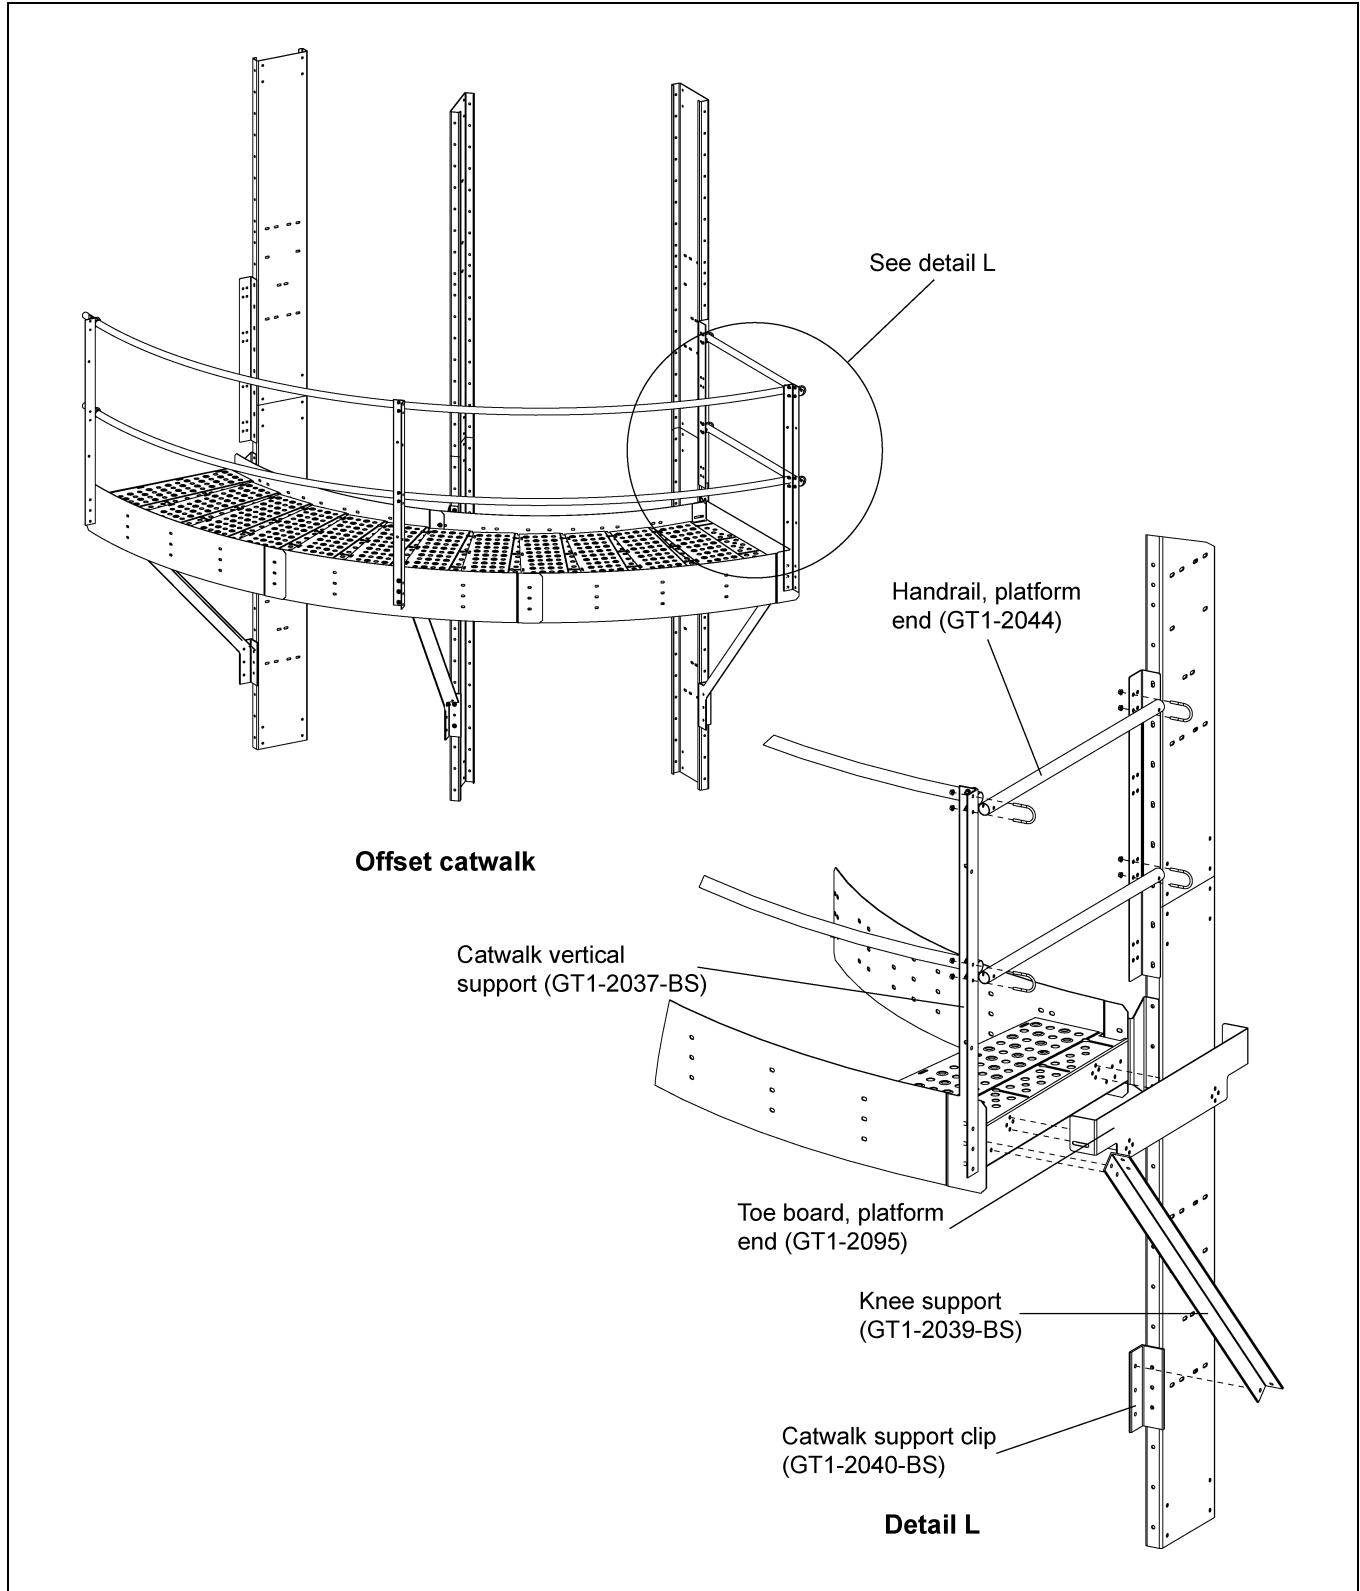
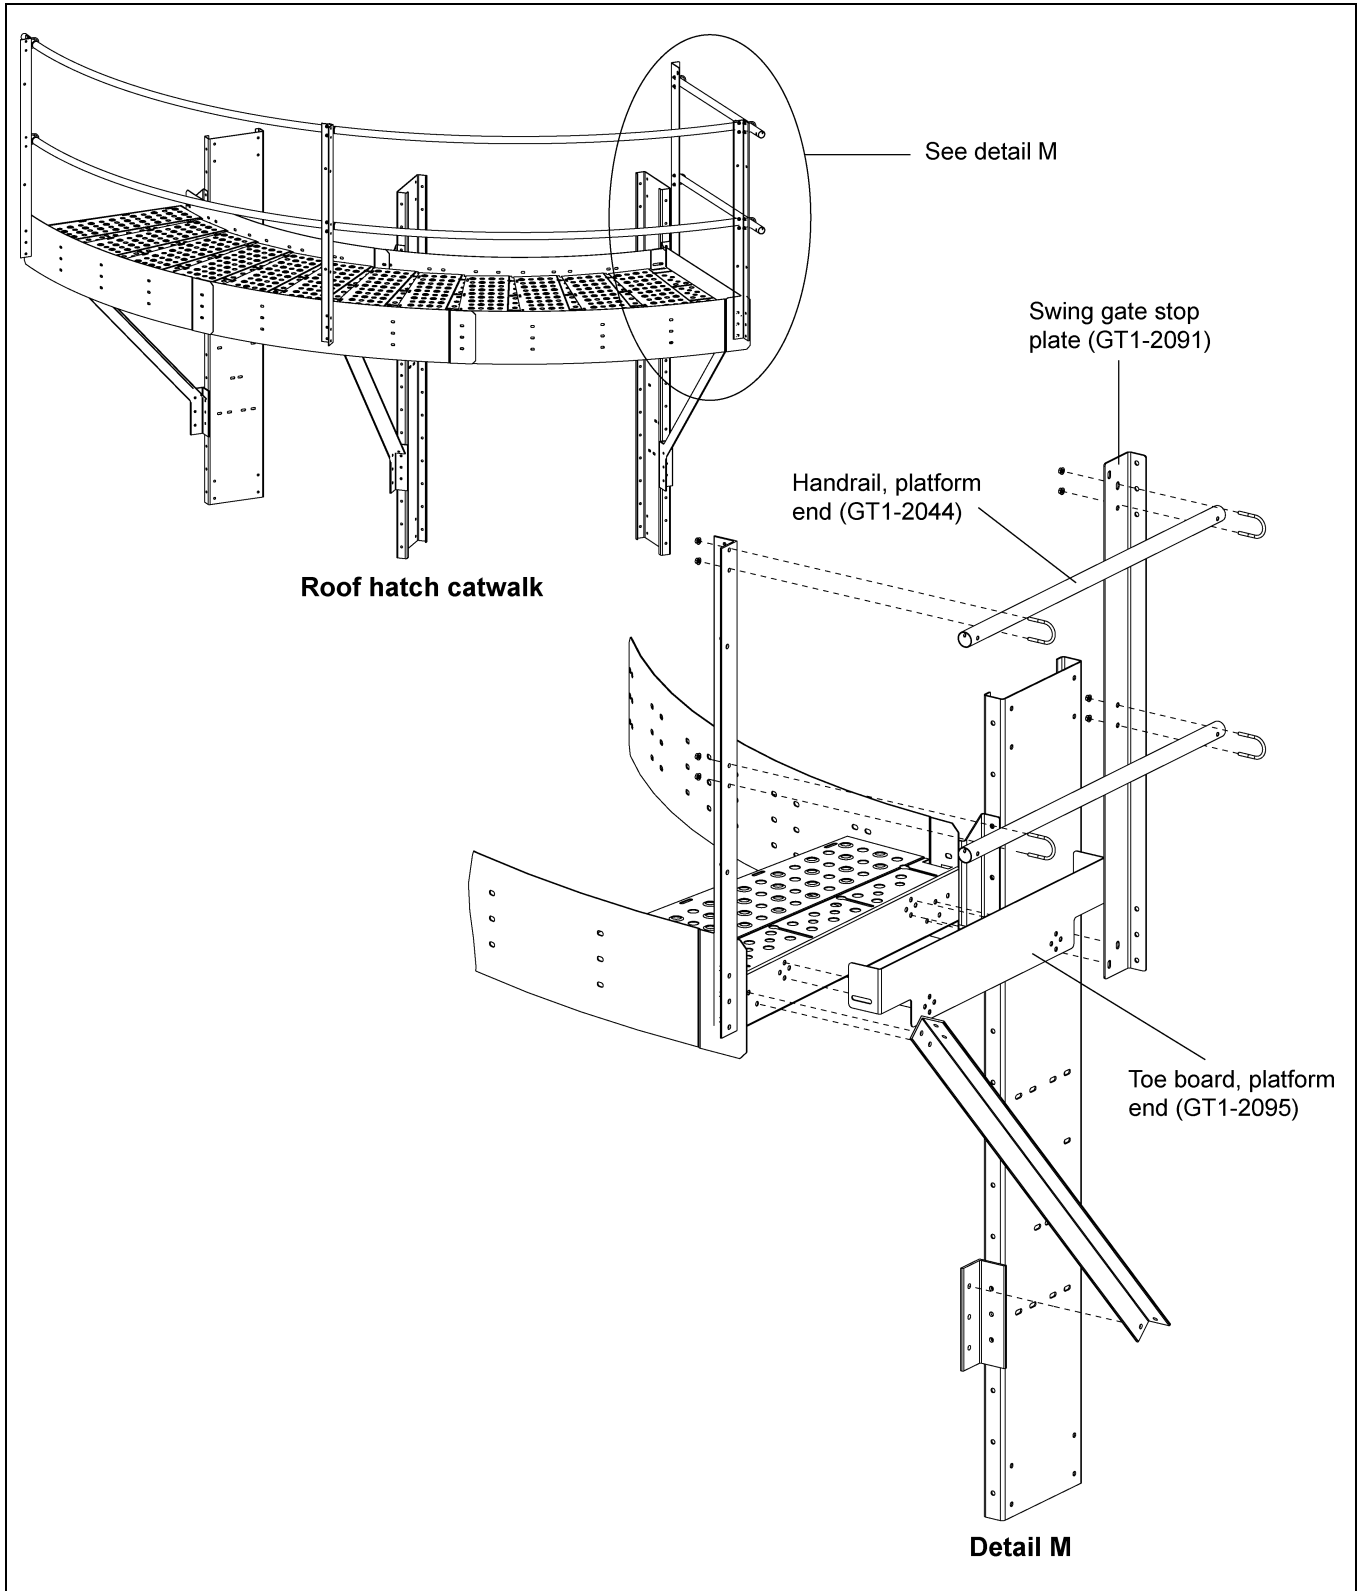

Figure 6V Offset Platform End Handrail (GT1-2044) Installation
Figure 6W Roof Hatch Platform End Handrail (GT1-2044) Installation
3. Install the platform end handrail (GT1-2044) to the catwalk vertical support (GT1-2037-BS) and the platform end plate (GT1-2045). (See Figure 6V below and Figure 6W on Page 61.)